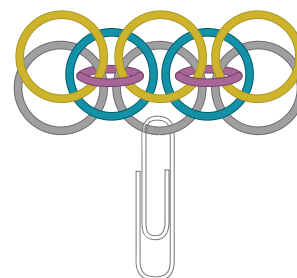

FIG. 4
5. To finish the row, thread and close a large open (yellow) jump ring through each small (pink) jump ring (**FIG. 4**).